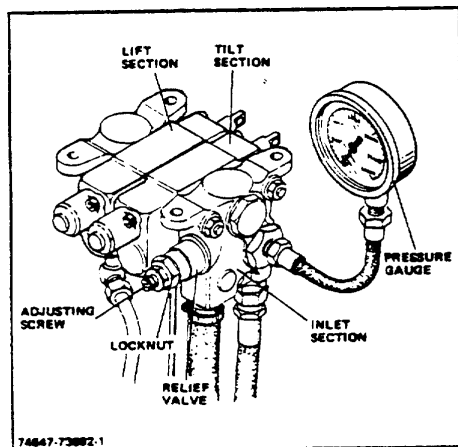

Figure 2-1. Checking Inlet Section Pressure
1. Checking Inlet Section Pressure (Fig 2-1)
- b. Remove pipe plug from large plug in the side of the inlet section. Install a pressure gauge (Fig 2-1) with a zero to 3000 psi range. A short length of high pressure hose with fittings may be installed between the gauge and the large plug to facilitate installation of the gauge.
Some lift trucks are equipped with an inlet adaptor which has a pipe plug where a pressure gauge can be installed. If unit is an early model and is not equipped with this adaptor, then either install a large plug and gauge in the side of the inlet section as illustrated in Figure 2-1, or disconnect the hydraulic hose from the upper port in the inlet section, install a tee fitting, and install a zero to 3000 psi gauge and the hydraulic hose in the tee.